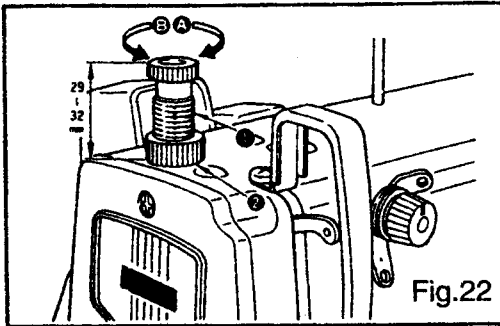

Fig.22
1)To stop the machine with its presser foot up, turn hand lifter ① in direction ➔ .
18. PRESSER FOOT PRESSURE (Fig.22)